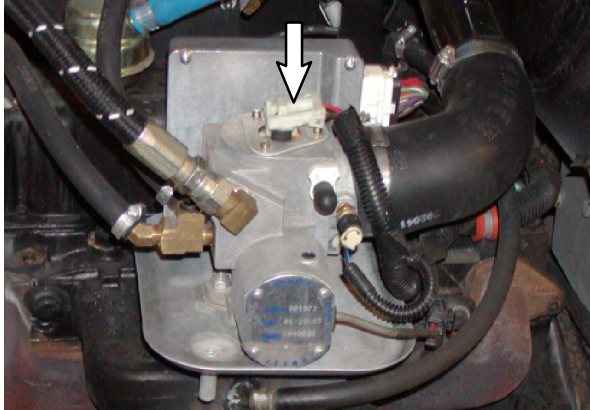

FIG. 4
3. Disconnect the LPG injector harness connector from the LPG injector. Refer to Fig. 4.
8. Connect the LPG injector harness connector to the new LPG fuel injector (12). Refer to Fig. 4.